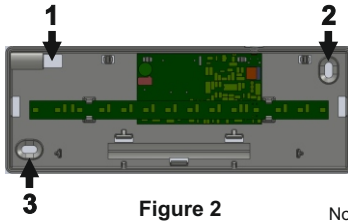

Figure 2
2. Pass the mains cables thru the hole (point 1 in figure 2). The luminaire must be connected to a permanent electrical installation to ensure the immobilization of the cable.
3. Mount the base plastic on the wall by using the included mounting accessories in points 2 and 3 in figure 2.